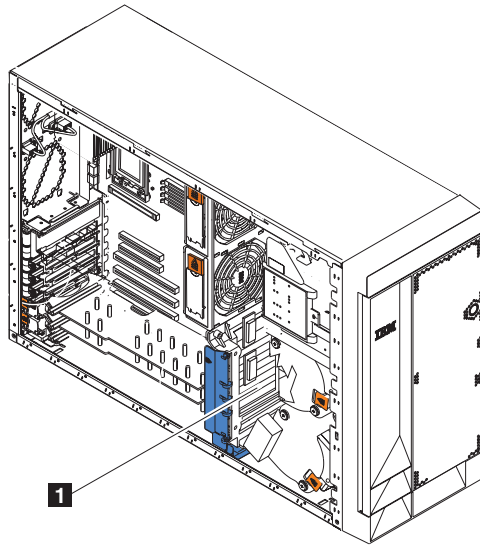
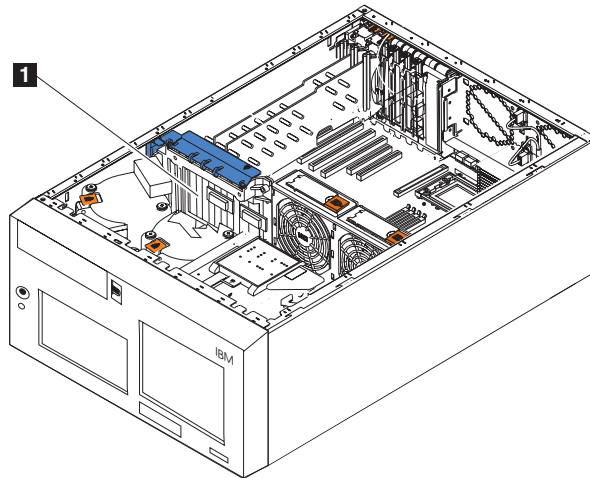

Figure 117. Location of the engine's DASD backplane (Model 25T)
Figure 118. Location of the engine's DASD backplane (Model 25T with the rack-mount conversion feature)
11. Route the cable through the adapter-support bracket (see Figure 47 on page 112) and connect the other end of the SCSI cable to the hard disk drive SCSI connector (J9) on the engine's DASD backplane. See Figure 117 on page 185 or Figure 118 on page 185 for the location of the backplane.